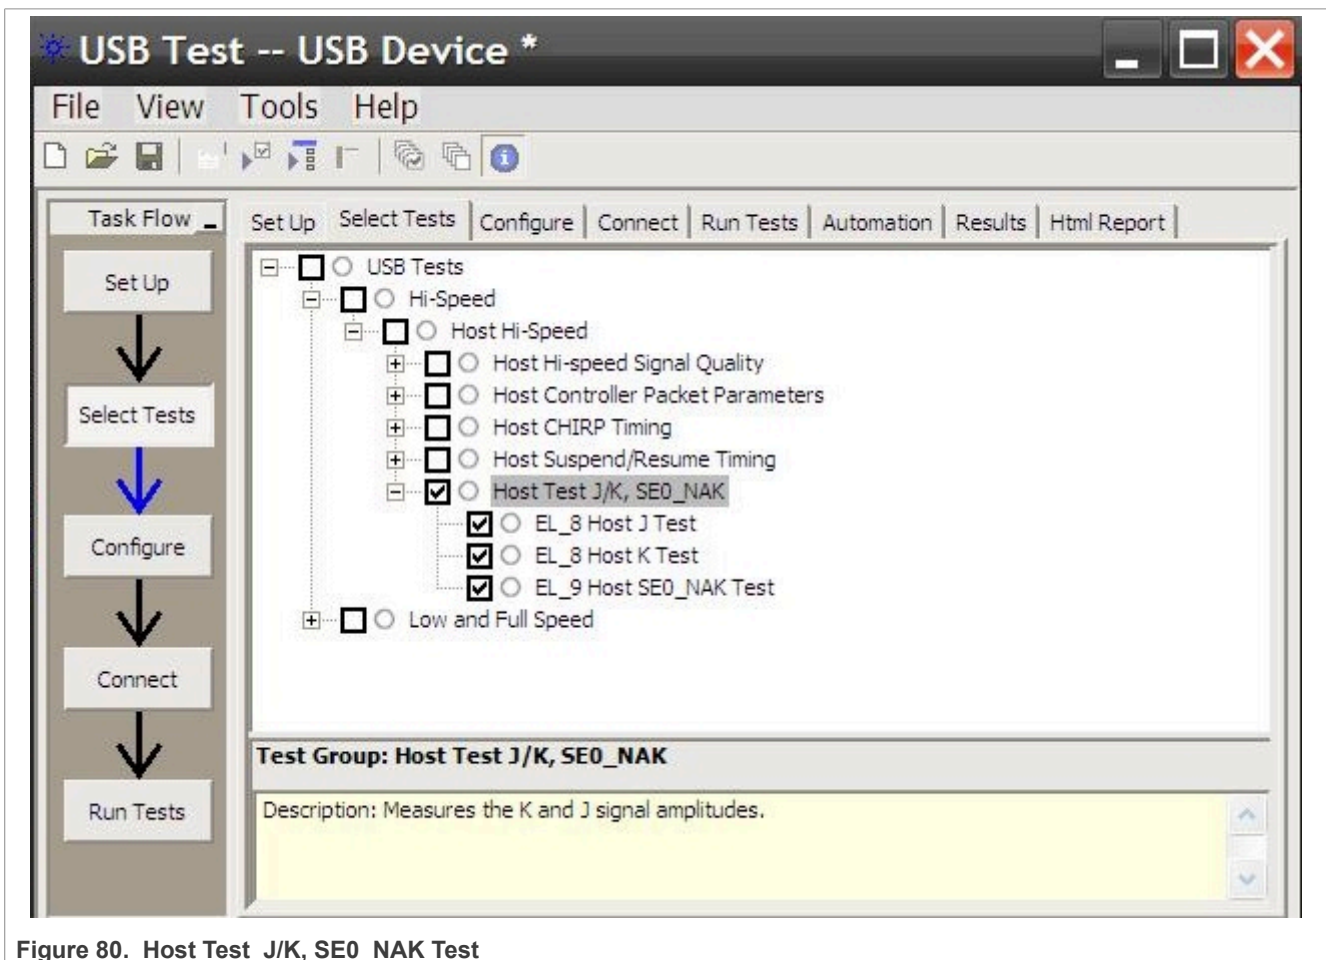

Figure 80. Host Test\_J/K, SE0\_NAK Test
1. Select the test items in the USB Automated Test Software on Oscilloscope as shown in Figure 80 below and make sure you set the Test Type configuration option to “Hi-Speed Near End” before running the test.